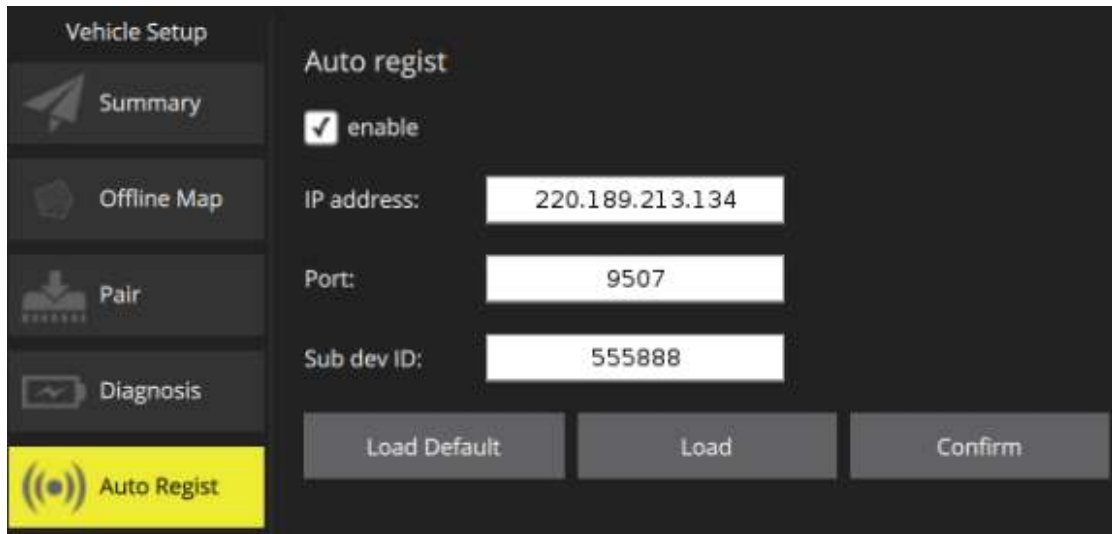

Figure 4-35
Step 1 Select “Settings > Aircraft Settings > Auto Registration”, and the system will display the interface of “Auto Registration”, as shown in Figure 4-35.